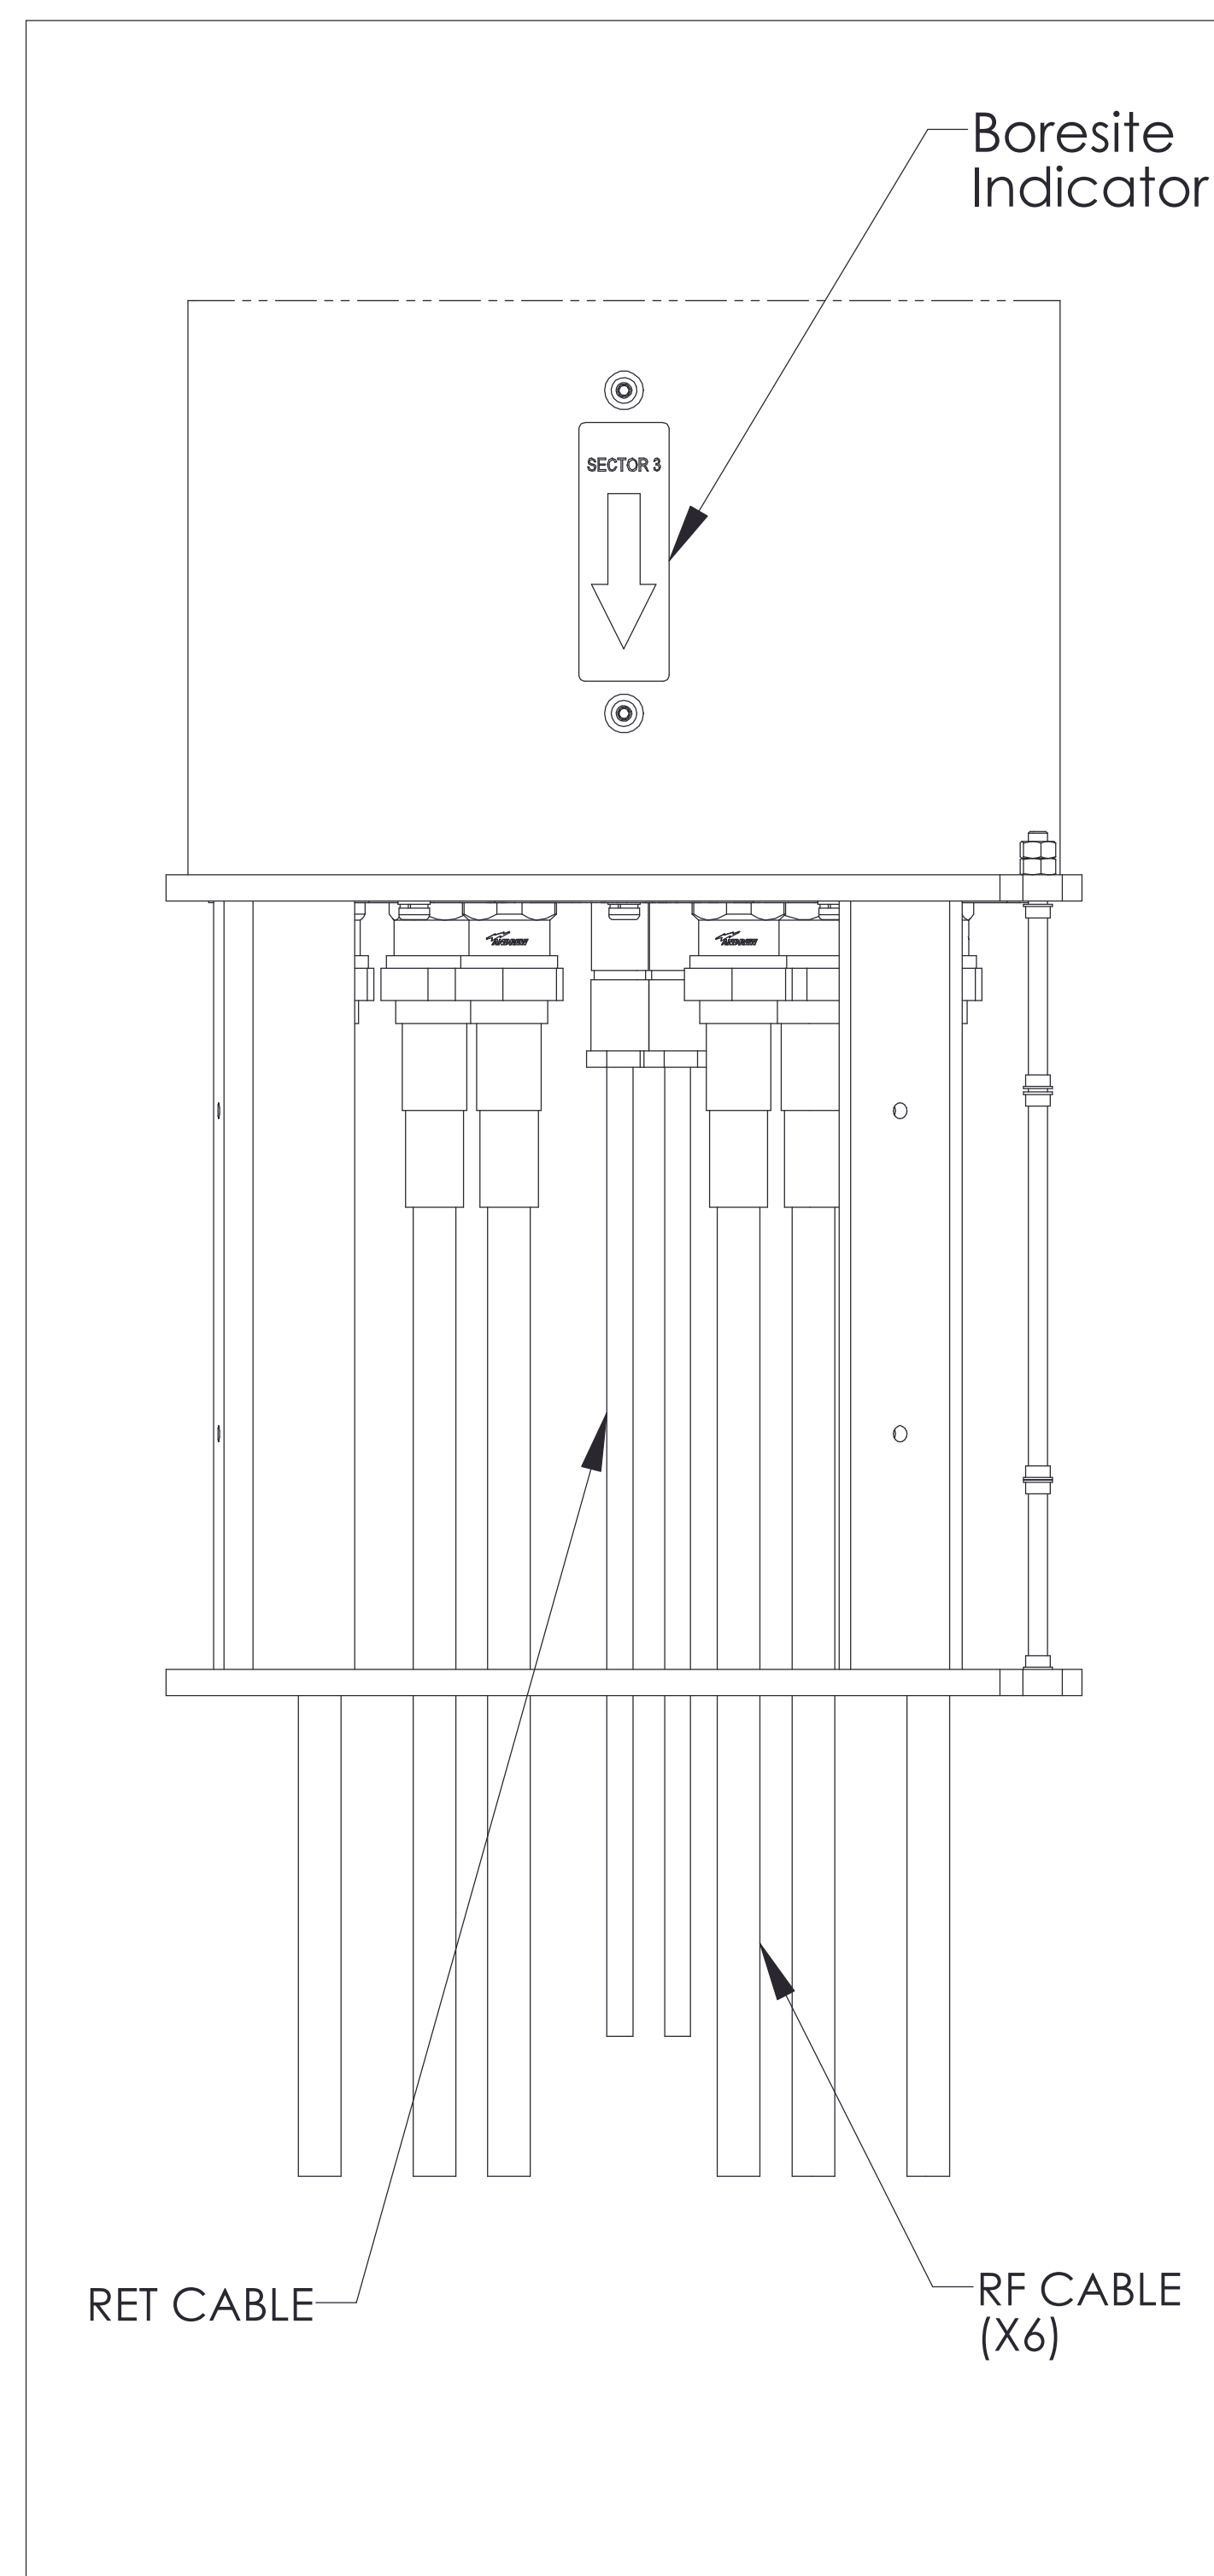

Figure 5. Routing Cables.
**The boresite of each antenna is shown by the boresite indicator (featured in Figure 5). The direction of each antenna must be considered prior to mounting to ensure desired performance.**
5. Attach the RF cables to the antenna input connectors and torque to 25-30 Nm (Figure 5).